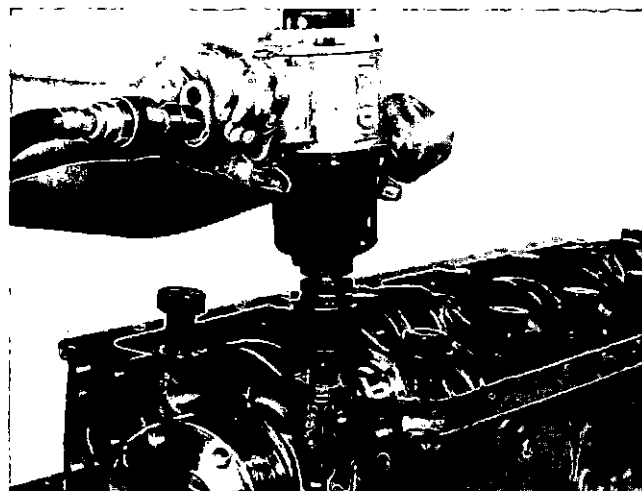

Fig. 0-56. Remove The Main Bearing Capscrews.
1. Remove the capscrews and lockplates that hold the main bearing caps to the cylinder block, Fig. 0-56.